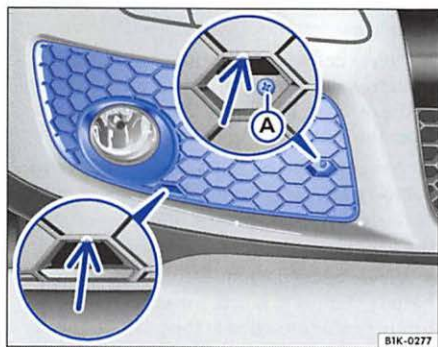

Fig. 45 In the right front bumper: removing the cover
- Remove the Philips head screw ⇒ fig. 45 (A)